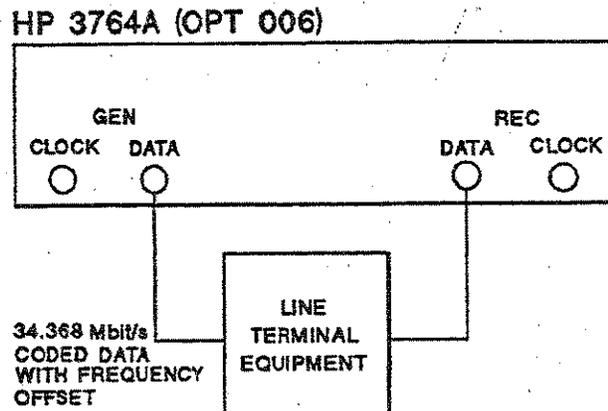

Figure 2-3. 34.368 MHz Clock Recovery Tolerance Measurement
3. Connect up the equipment as shown in Figure 2-3.